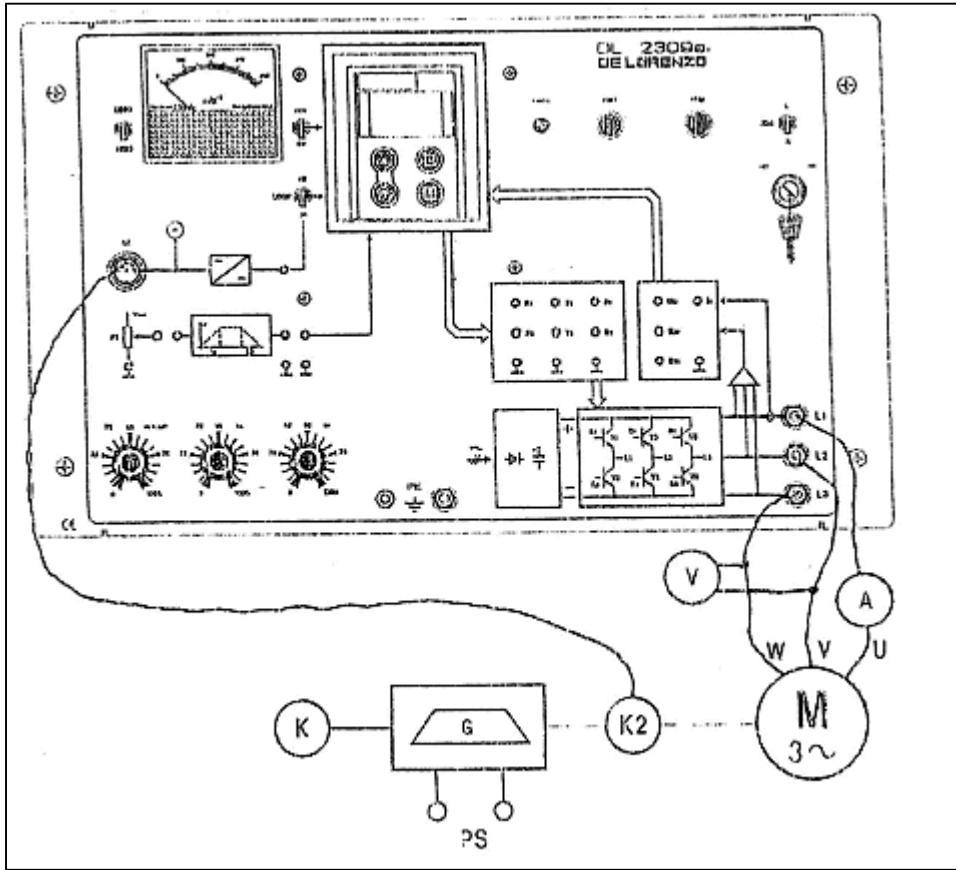

Figure 8.1
1. Connect the following circuit in Figure 8.1